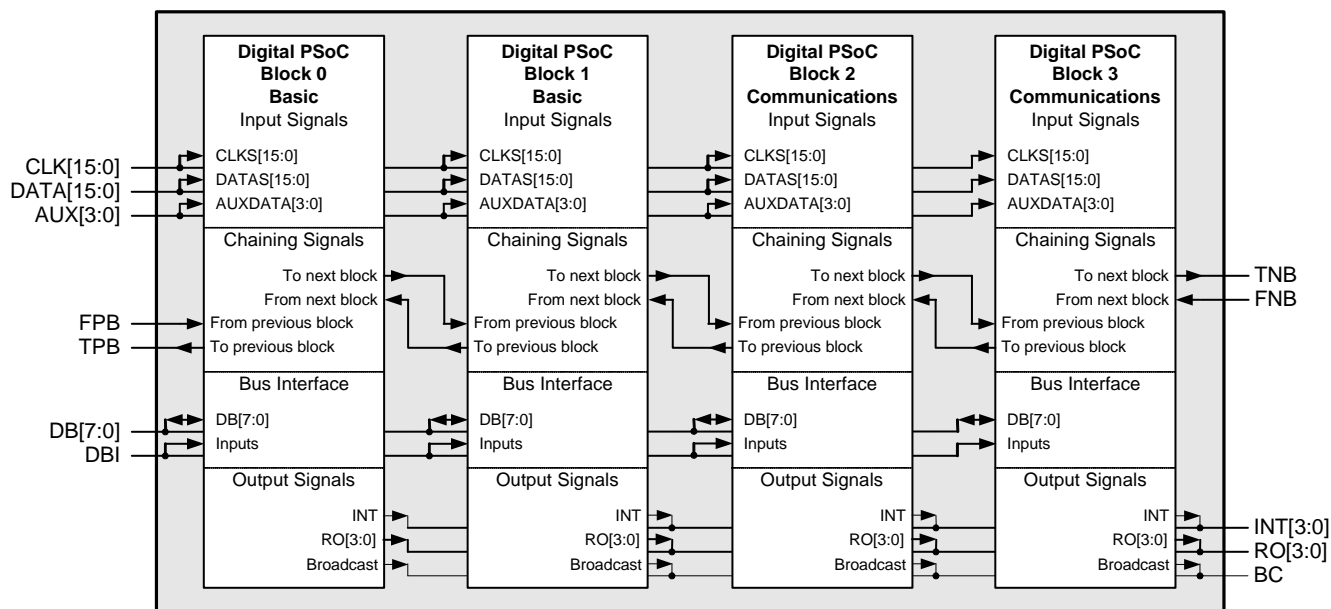
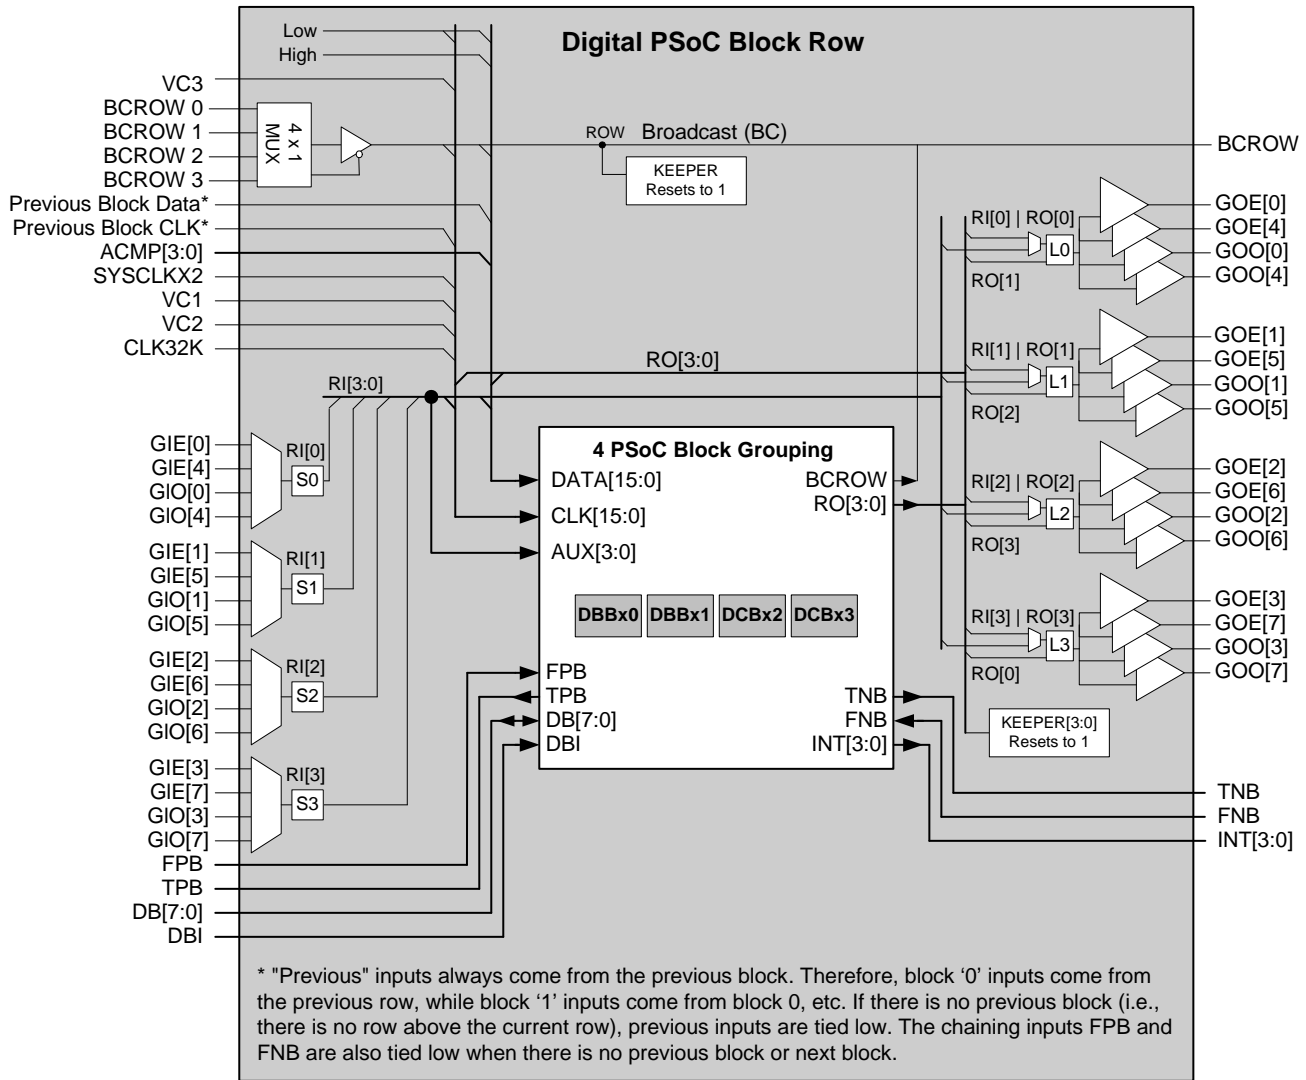

Figure 16-1. Detailed View of Four PSoC Block Grouping
Figure 16-2. Digital PSoC Block Row Structure
In Figure 16-1, within a digital PSoC block row, there are four digital PSoC Blocks. The first two blocks are of the type basic (DBB). The second two are of the type communication
(DCB). This figure shows the connections between digital blocks within a row. Only the signals that pass outside the gray background box in Figure 16-1 are shown at the next level of hierarchy in Figure 16-2 on page 328.
In Figure 16-2, the detailed view shown in Figure 16-1 of the four PSoC block grouping, has been replaced by the box in the center of the figure labeled “4 PSoC Block Grouping.” The rest of the configurable nature of the Row Inputs (RI), Row Outputs (RO), and Broadcast clock net (BC) is shown for the next level of hierarchy.
As shown in Figure 16-2, there is a **keeper** connected to the row **broadcast net** and each of the row outputs. The keeper sets the value of these nets to '1' on system reset and holds the value of the net should it become un-driven.
Notice on the left side of Figure 16-2 that global inputs (GIE[n] and GIO[n]) are inputs to 4-to-1 multiplexers. The
The only configurable inputs to a digital PSoC block row are the Global Input Even and Global Input Odd 8-bit buses. The only configurable outputs from the digital PSoC block row are the Global Output Even and Global Output Odd 8-bit buses. Figure 16-2 on page 328 illustrates the relationships between global signals and row signals.
* When the BCSEL value is equal to the row number, the tri-state buffer that drives the row broadcast net from the input select mux is disabled, so that one of the row's blocks may drive the local row broadcast net. * Refer to Figure 16-2 on page 328. * If the row is not present in the part, the selection provides a logic 1 value.
The outputs from a digital PSoC row are a bit more complicated than the inputs. Figure 16-2 on page 328 illustrates the output circuitry in a digital PSoC row. In the figure, find a block labeled Lx. This block represents a 2-input look-up table (LUT). The LUT allows the user to specify any one of 16 logic functions that should be applied to the two inputs.